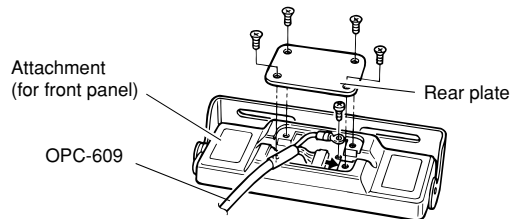

Fig. 1
- ① Separate the front panel from the transceiver main unit using the allen wrench ($1/32''$).
- ② Connect the optional OPC-609 cable to both the front and main unit attachments (figures 1 and 2).